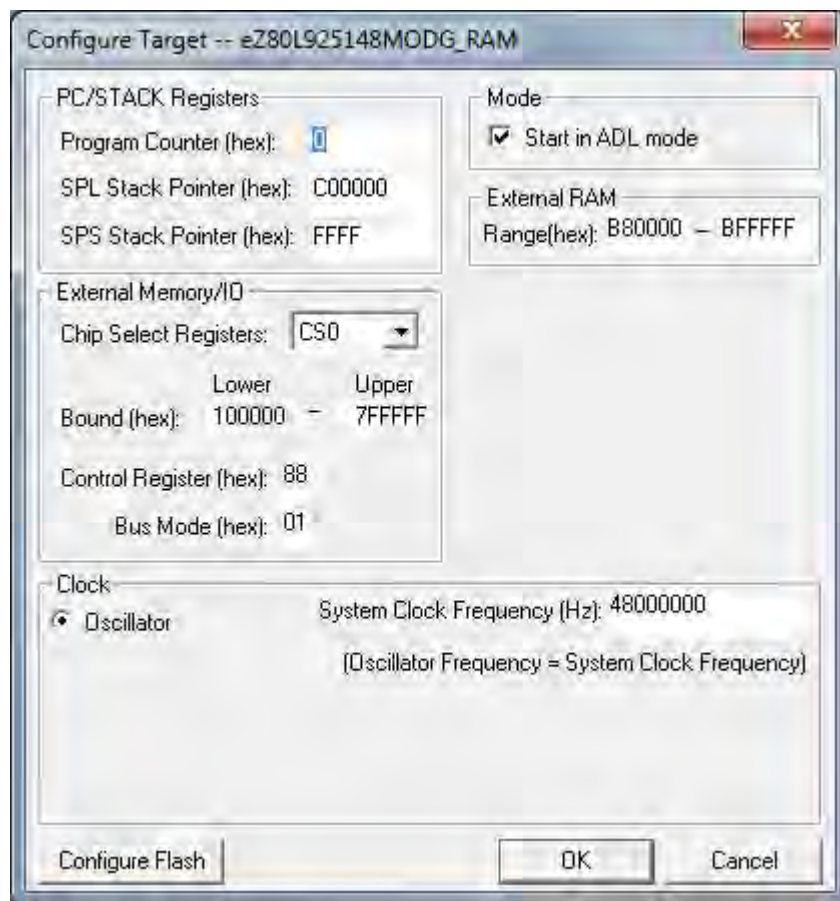

Figure 2. The Configure Target Dialog for the RAM Build
3. Click the **Setup** button. The Configure Target dialog will appear, as shown in Figure 2, which presents the default settings for the eZ80L925148MODG_RAM ZTGT file. If you have not previously modified the contents of the eZ80L925148MODG_RAM file, then you should see the values in Figure 2 after clicking the Setup button. Verify that your settings match the values shown in this figure.